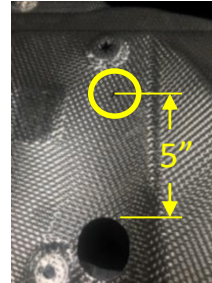
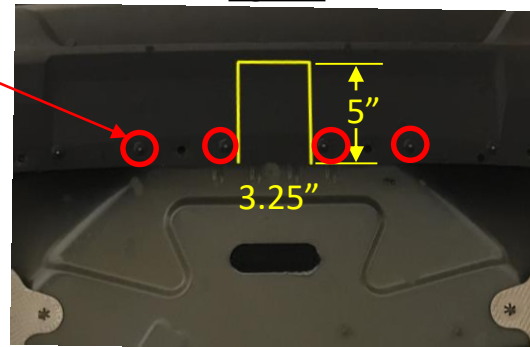

Figure 2
Figure 3
- Remove heat shields** - Using a 10mm socket remove the nuts holding the heat shield, using a 7mm socket remove the screw holding the heat shield to the wheel well liner, remove the heat shield. Cut a 1.5" hole forward of the center attachment in the heat shield to clear the middle fastener for the hitch, see **Fig. 2**. Set fasteners aside for reinstallation.
- Remove Kick Sensor (If applicable)** – Using a 1/4" drill bit remove the center (4) rivets holding the kick sensor in place.
- Trim fascia** – If applicable, move the kick sensor aside to avoid cutting during trimming. Find the center of the fascia and trim the vehicle fascia per **Fig. 3**. *Dimension are approximate.